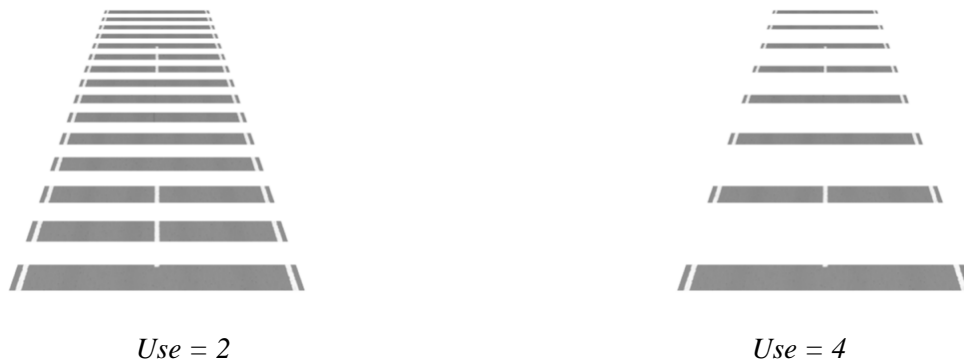

Figure 15. Effect of longitudinal “Use” setting to skip intervals.
- (16) Lateral skip counter **Use**, which allows some divisions to be skipped. If not specified, a count of 1 is applied, indicating that every  $dS$  increment be shown. A count of 2 means every second increment is shown, a count of 3 means every third, and so on (Figure 15). This option is included to make it efficient to generate checkerboard or stripe patterns.